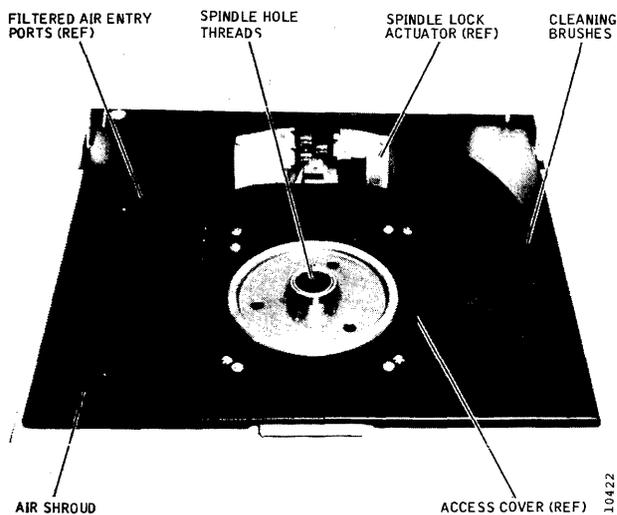

Figure 4-7. Disk Pack Area Components
1. Carefully move the cleaning brushes (Figure 4-7) out of their recess by pulling the brush arm out slowly by hand.